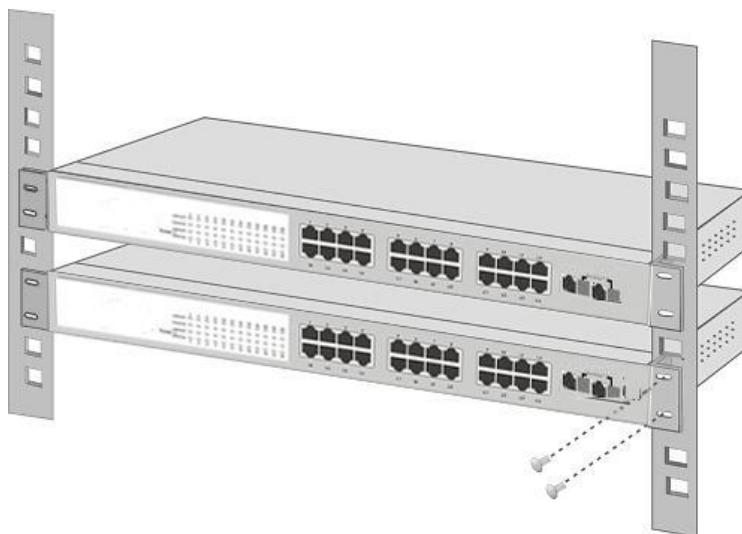

Figure 2-5 Mounting the Web Smart Switch in a Rack
Step 5: After the brackets are attached to the Web Smart Switch, use suitable screws to securely attach the brackets to the rack, as shown in Figure 2-5.